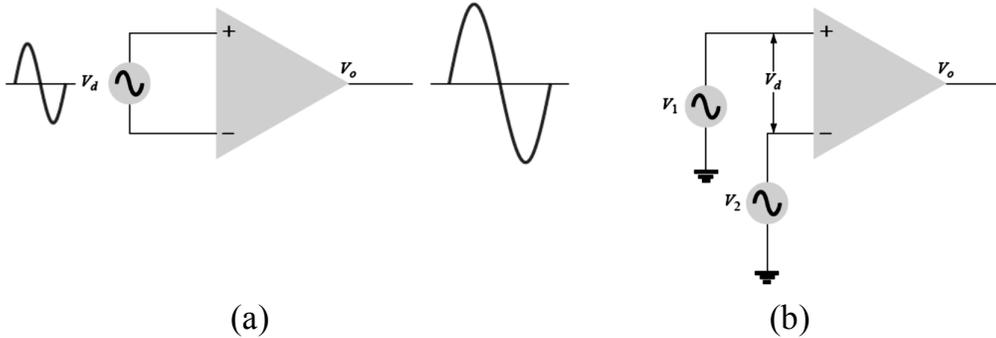

Fig. 1-5
**Double-Ended (Differential) Input:** In addition to using only one input, it is possible to apply signals at each input-this being a double-ended operation. Fig. 1-5(a) shows an input,  $V_d$ , applied between the two input terminals (recall that neither input is at ground), with the resulting amplified output in phase with that applied between the plus and minus inputs. Fig. 1.5(b) shows the same action resulting when two separate signals are applied to the inputs, the difference signal being  $V_{i1} - V_{i2}$ .